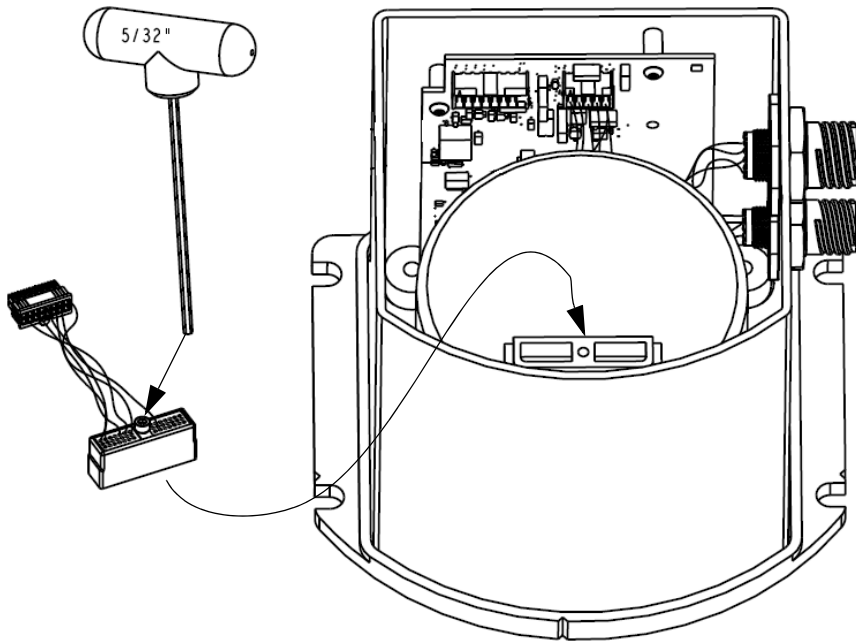

Figure 35: Attach Wiring Harness
1. Attach the LN-200 wire harness to the mating connector on the LN-200. Check that the connector is fully seated, see *Figure 35 on page 143*.